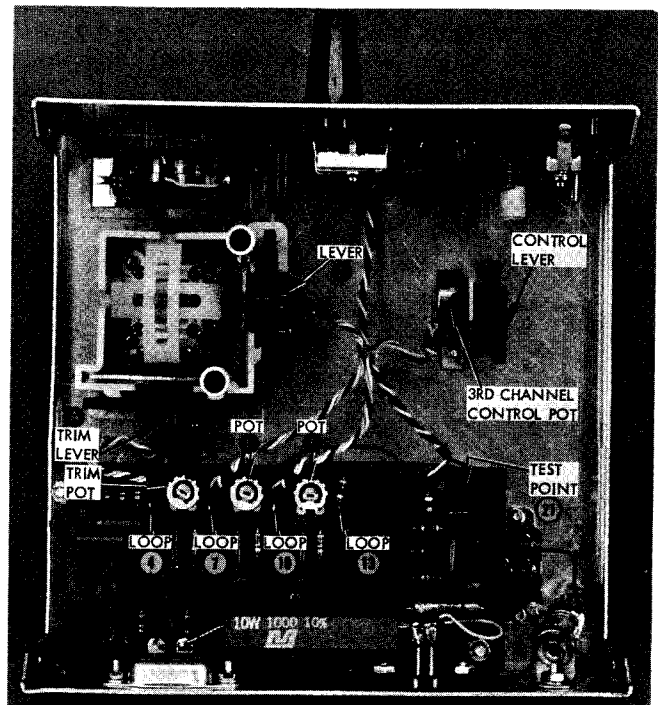

Figure 34. Logic Calibration Points (3-Channel)
- 178. Set front transmitter controls, including trims, to neutral. Place trim levers **A**, **C**, **E** and **G** in straight up position, and set trim pots **B**, **D**, **F** and **H** to 12 o'clock positions. (See figures 34, 35 and 36.)
Proceed with transmitter logic calibration, using your choice of either of the following two methods. Basic alignment instructions are primarily for the standard two-stick, four-channel unit. Variations for the 3-channel and single-stick (3-axis) transmitters are specifically noted as they occur. Figures 34, 35 and 36 provide location and identification of all controls used in logic calibration.
202. If servo responds properly to transmitter commands, hold front aileron trim control and adjust position of trim lever (A) until servo output arms are centered. See figures 34, 35 and 36 for logic calibration adjustment points.